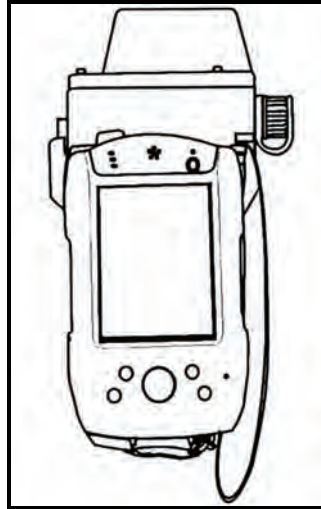

Figure 17-1. Lightweight handheld mortar ballistic computer.
17-1. The LHMBC (Figure 17-1) is an automated fire control system designed to improve the command and control of mortar fires and the speed of employment, accuracy, and survivability of mortars. The system is comprised of the LHMBC software package installed in an RPDA. The LHMBC software can be easily upgraded or reinstalled from either a secure digital (SD) card or the onboard system ROM. System accuracy can be increased through the use of a GPS and digital MET messages. The LHMBC allows for self-surveying mortars, digital CFF exchange, and automated ballistic solutions.